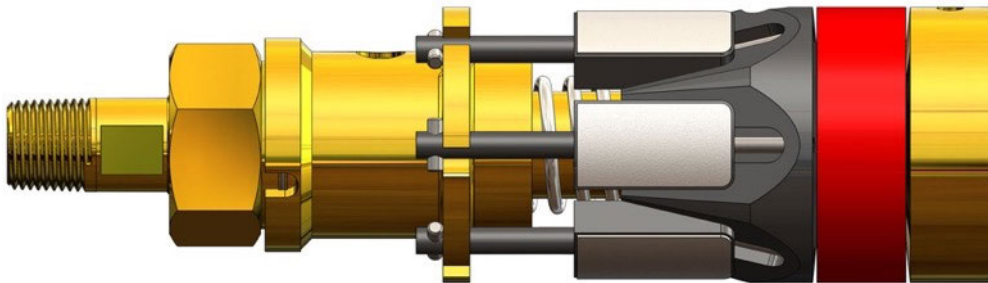

Figure 5: Not Ready to Install State (Retracted)
- The GripSafe ST ORB plug should be in the **Retracted** position from the factory, see Figure 5.
- Once the **Seal(9)** has freed itself from the pipe internal diameter, water may flow out from the pipe, be prepared to capture this if desired. Continue loosening the **Compression Hex Nut(2)** slowly until the wedges are fully relaxed (Retracted) and the seal has been freed from the pipe, see Figure 5.